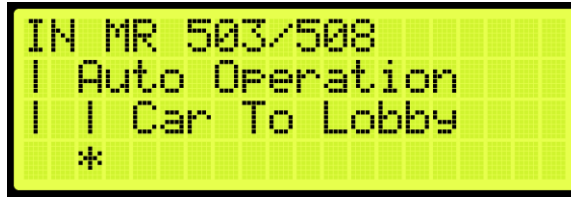

Figure 402: Category and Input
8. Scroll and select the desired input or output. Figure 402 shows the Auto Operation category to assign Car to Lobby to an unused input.
4. Scroll and select the input or output to be removed (See Figure 402).